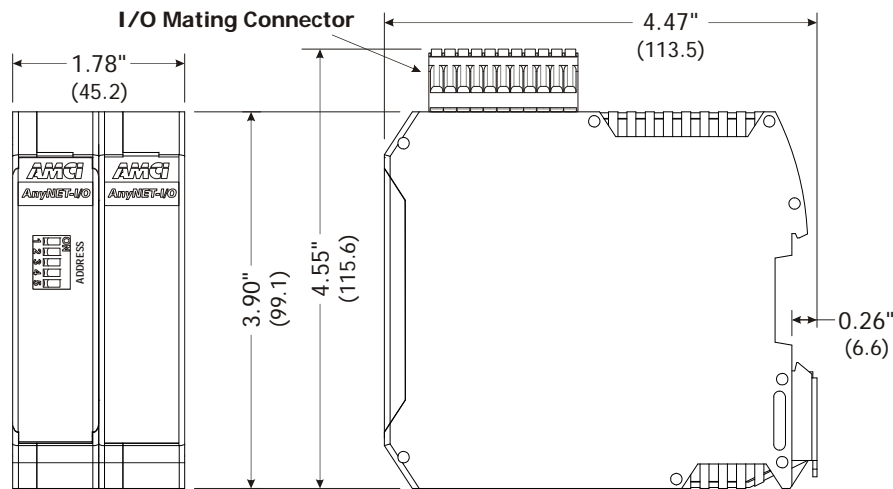

Figure T1.1 AnyNET-I/O Outline
Figure T1.1 shows the dimensions of an IANF2(E) module.